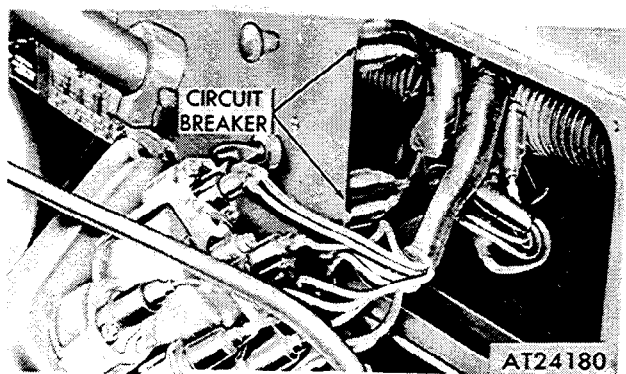

Figure 2-249. Disconnecting or connecting circuit breaker connectors on M151A2, M825, and V1718A1 vehicles.
(21) Reach inside just to left of cluster opening and disconnect four connectors for the two circuit breakers (fig. 2-249).
*g. Circuit Breakers on M151A2, M825, and M718A1 Vehicles.* Two circuit breakers, both mounted inside the dash just left of instrument cluster (fig. 2-249), protect various electrical circuits. The top one protects the temperature indicator, fuel gage and oil pressure gage. The bottom one protects the horn circuit. A third breaker, integrated into the light switch assembly, protects the vehicle's lighting circuitry.